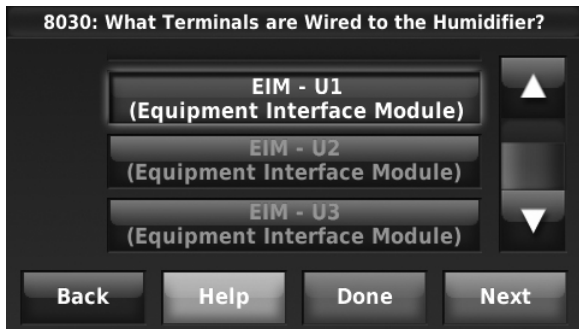

Fig. 210.
- Select the terminals wired to the humidifier. See Fig. 210.